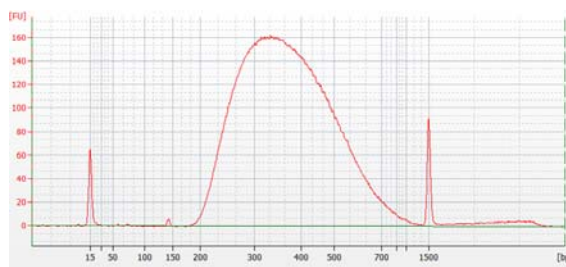
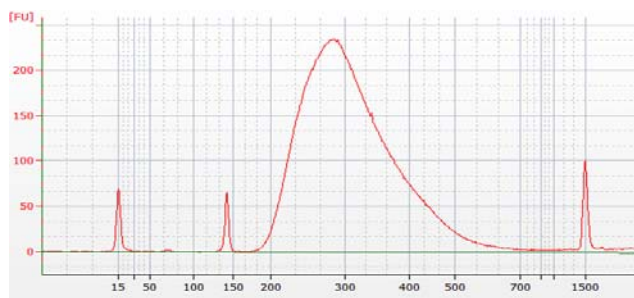
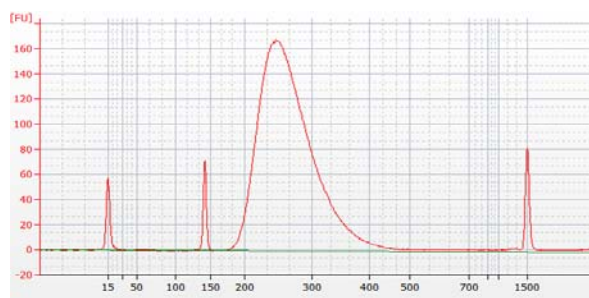

Figure 2 Pre-capture library prepared from a high-quality gDNA sample analyzed using a DNA 1000 Bioanalyzer assay.
Figure 3 Pre-capture library prepared from a typical FFPE gDNA sample analyzed using a DNA 1000 Bioanalyzer assay.
Figure 4 Pre-capture library prepared from a low-quality FFPE gDNA sample analyzed using a DNA 1000 Bioanalyzer assay.
- 3 Verify that the electropherogram shows the peak of DNA fragment size positioned between 300 to 400 bp for high-quality DNA and approximately 200 to 400 bp for FFPE DNA. Sample electropherograms are shown in Figure 2 (library prepared from high-quality DNA), Figure 3 (library prepared from medium-quality FFPE DNA), and Figure 4 (library prepared from low-quality FFPE DNA).